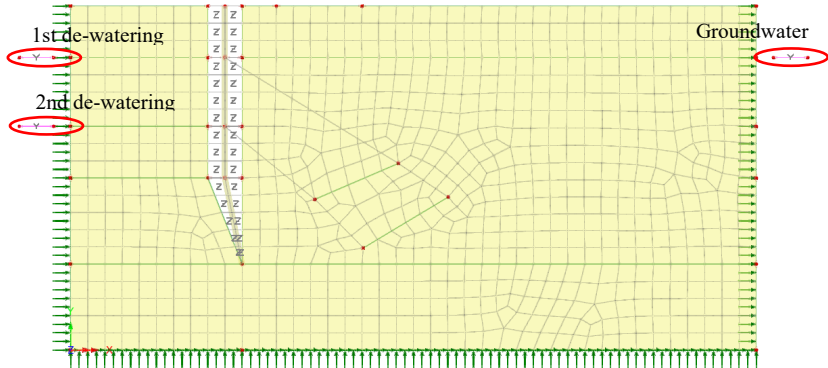

Figure 34: Phreatic surface assignments
- Assign each phreatic surface attribute, in turn, to the relevant lines defined earlier (figure 34).